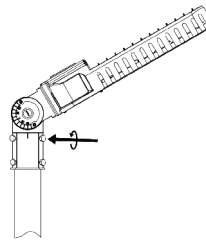

FIG.9
- Tighten the four M8 bolts on the slipfitter and secure it to the pole (see FIG.9).